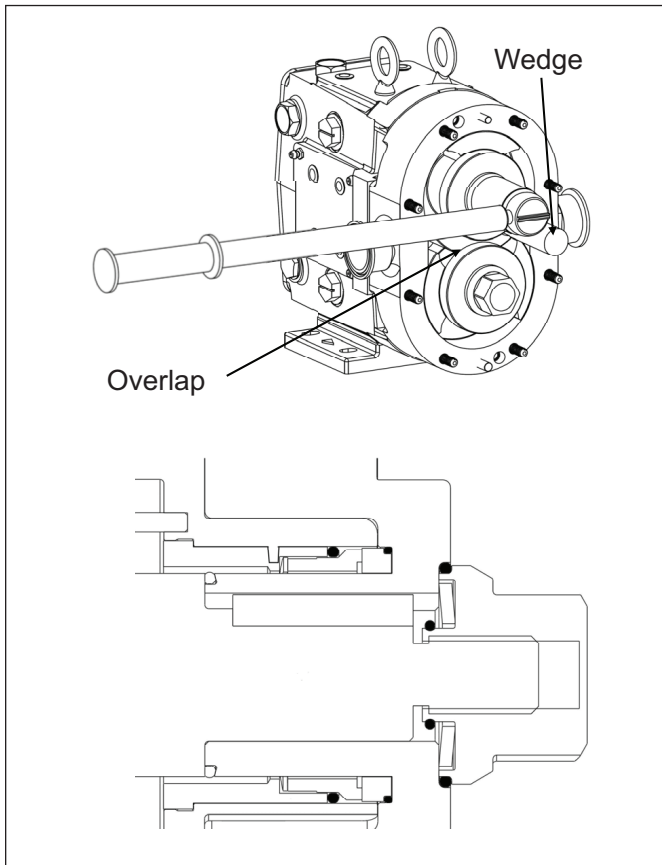

Figure 33. Rotor Assembly
7. Thread the nut onto the shaft and tighten it down using the appropriate wrench and a non-metallic wedge to hold the rotor in place (*Figure 33*). Reference *page 38* for rotor nut torque values. Orientate the rotors as seen in *Figure 33* and Always tighten the first rotor positioned under the overlap of the opposing rotor. Repeat with the second rotor in the same orientation.